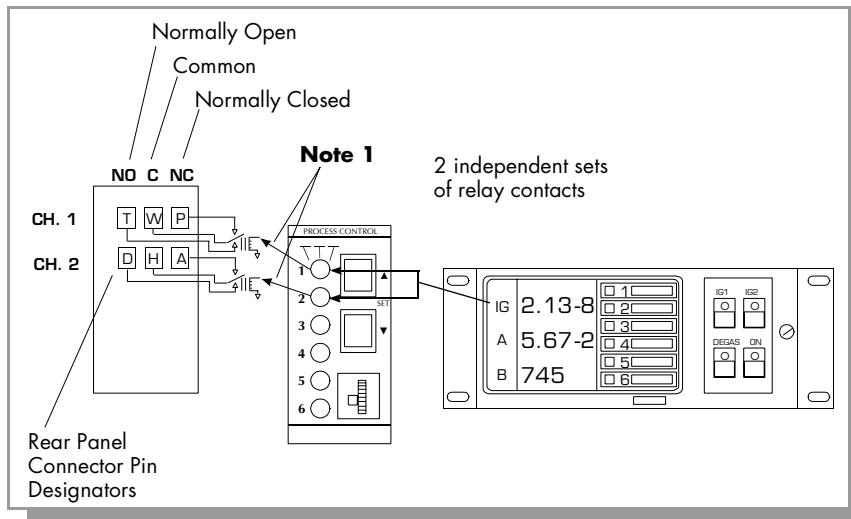

Figure 2-9 Two Channel Process Control - Cat. No. 360108.
2. Use the catalog number on the front of the Process Control module together with Figures. 2-9, 2-10, and 2-11 to identify the process control capability installed in your unit. For Cat. No. 360109, only the channels you have ordered will have switches present on the front of the module., e.g., 1, 2, 3, or 5.